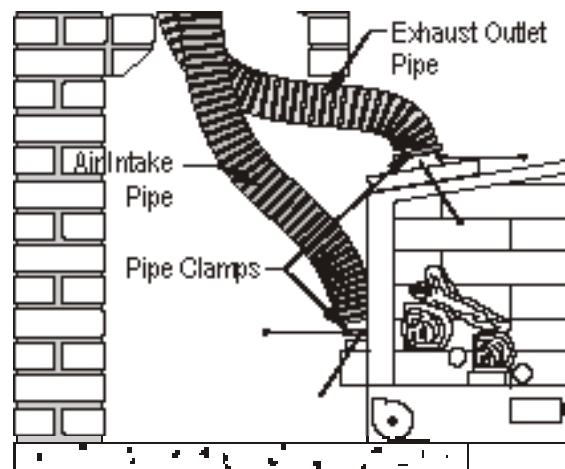

Figure 8. Connect the flex to the exhaust outlet and air intake.
STEP 9: Reach inside the opening above the Tuscany and slide clamps around both flex liners. Pull both flex liners straight to ensure the exhaust and the air intake will not be obstructed. Place a pipe clamp around each piece of flex as illustrated below. Make sure the air intake pipe is connected to the inlet at the back of the fireplace and **the marked or black painted exhaust pipe is connected to the outlet on top of the fireplace.** Tighten the pipe clamps and fasten the pipe with the screws provided. See fig. 8.